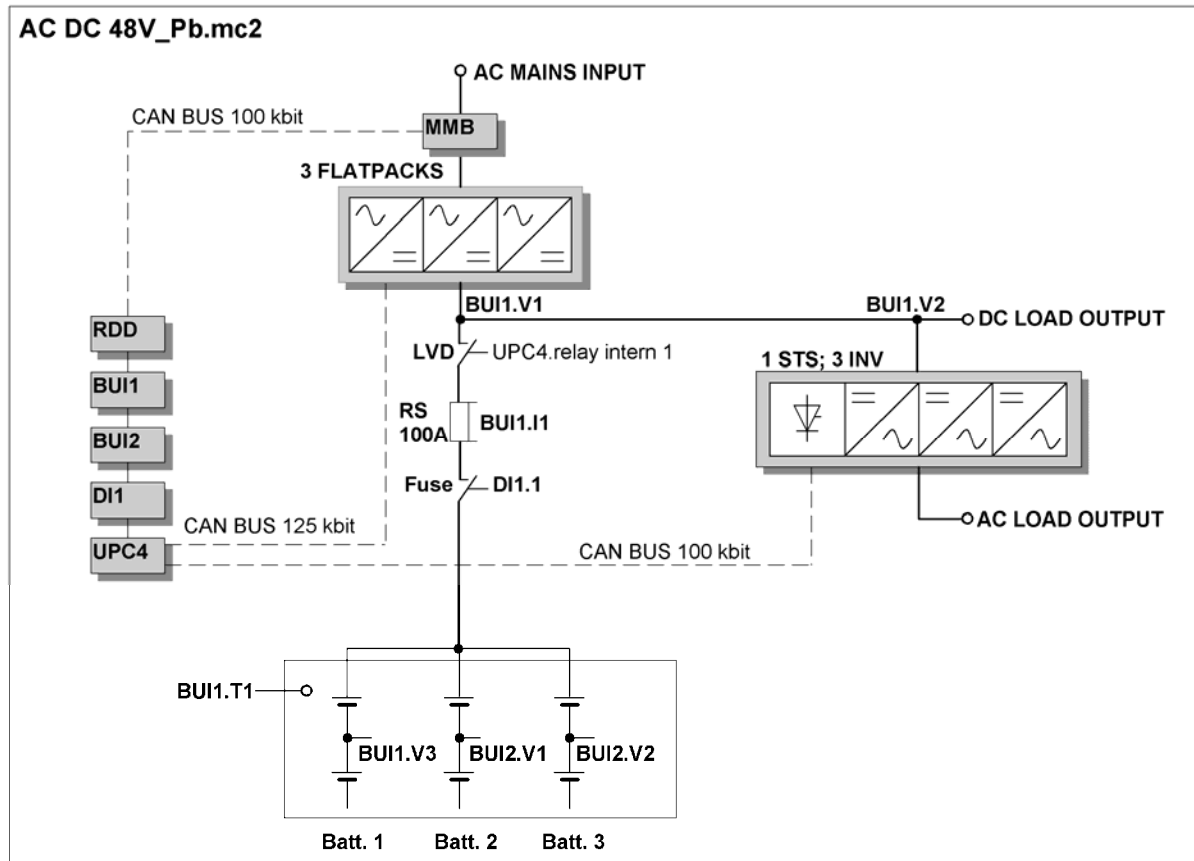

Figure 9. Block diagram "ACDC48V_Pb.mc2"
- Basically it is possible to assign one individual shunt to each battery. But in this case only one shunt is daisy chained to the three batteries (see figure 9.). Therefore the shunt must be assigned to battery 1 and consequently the assignment of measurement values of batt. 1 and 2 have to be set to "undefined".
REMARK:	The terms which are used in the block diagram (see figures 9, 10, 11), e.g. "BUI1.V1" means that this measurement point has to be connected to the connector "V1" at basic unit 1.